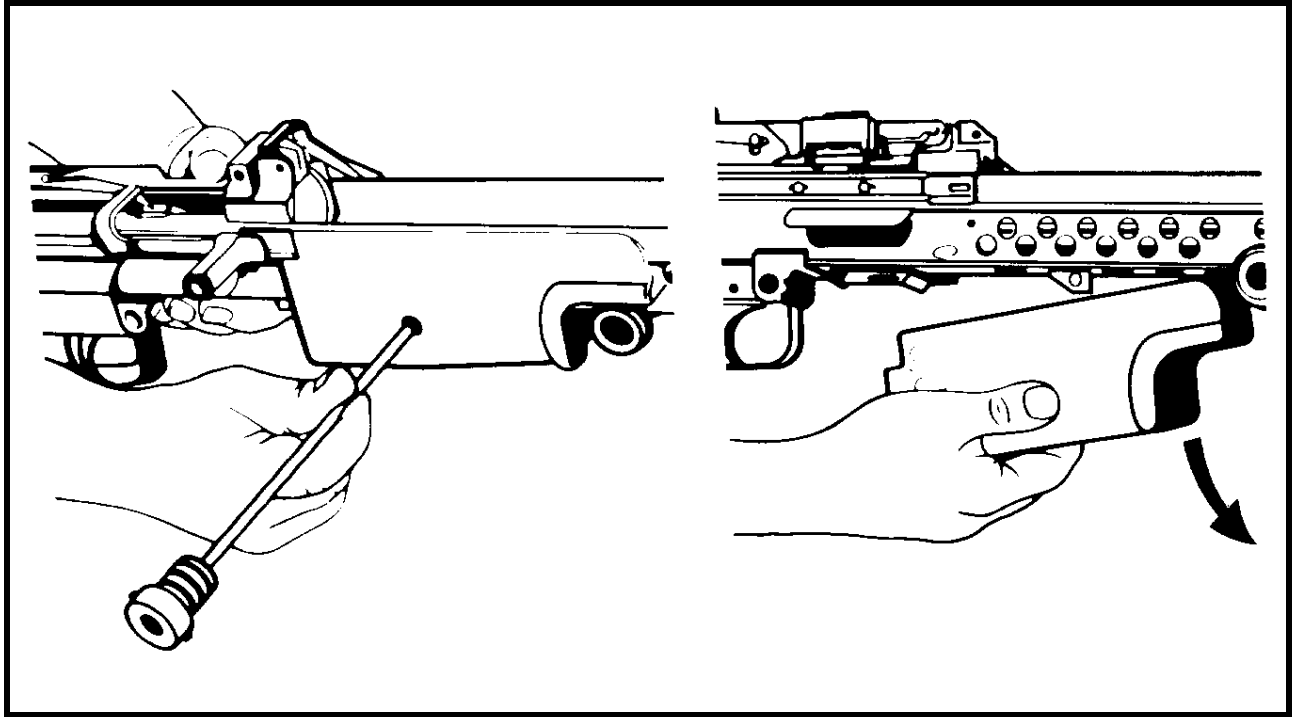

Figure 2-17 Handguard Removal
- d. **The Handguard.** Push the retaining pin to the left using the return spring rod and pull the handguard to the rear and down (see Figure 2-17).